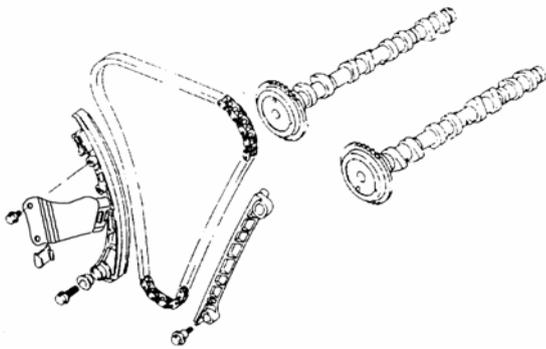

Fig. 4-116
- 3) Remove camshaft, tappet and valve clearance adjusting gasket according to “camshaft, tappet and valve clearance adjusting gasket” as shown in Fig. 4-116.